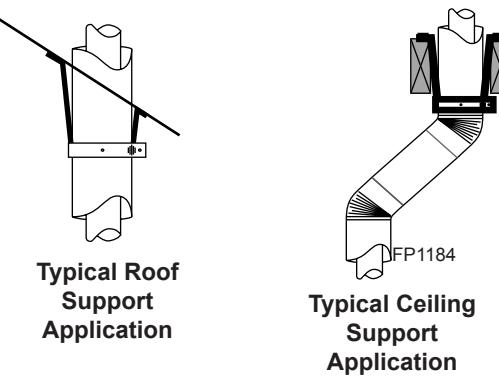
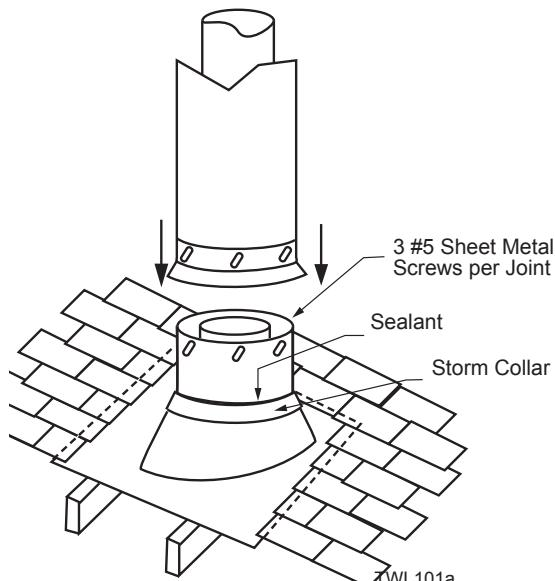

Figure 27 - Venting Supports
Figure 29 -
- 7DVCS supports offsets. *Figure 27*. This application will require that you first determine the roof pitch and use the appropriate starter kit. (Refer to Venting Components List)
7. Install roof support (*Figure 27*) and roof flashing making sure upper flange is below the shingles. *Figure 29*
8. Install appropriate pipe sections until the venting is above the flashing. *Figure 29*